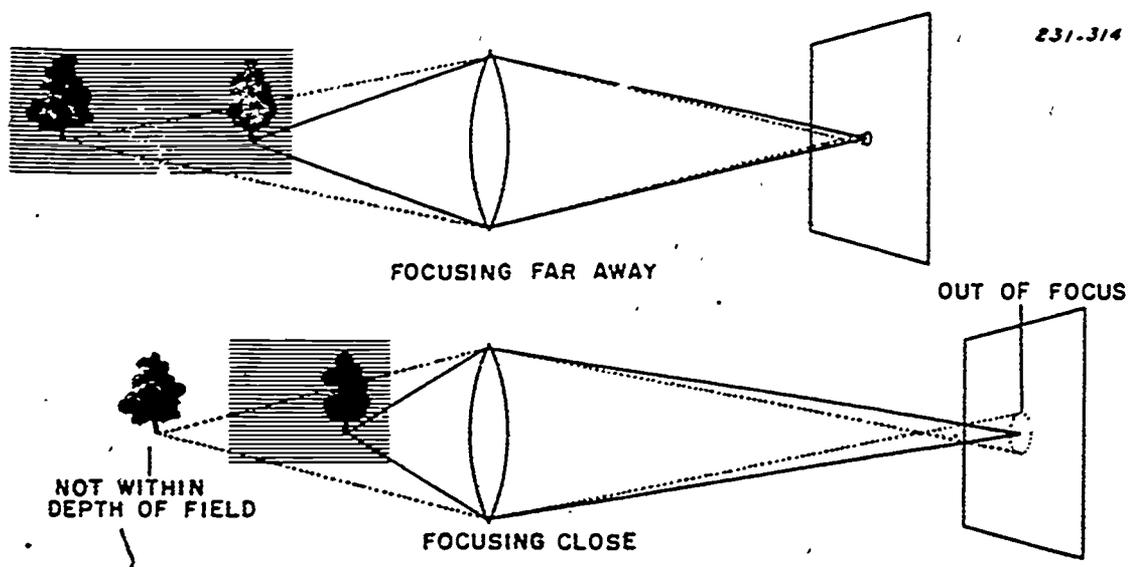

Figure 4-10. Focal length determining depth-of-field.
- Focal length. Other factors remaining constant, the shorter the focal length of the lens, the greater the depth of field (see fig. 4-10).